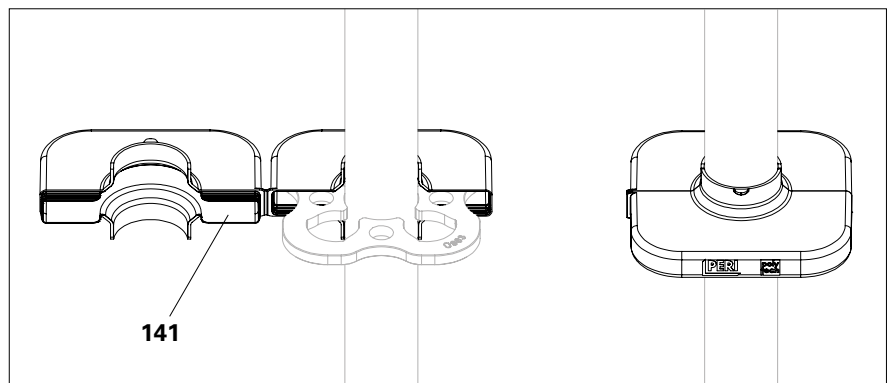

Fig. A16.02a
1. Position the Poly Cover Rosette UPC-R (141) with one half on the rosette.
- (Fig. A16.02a)